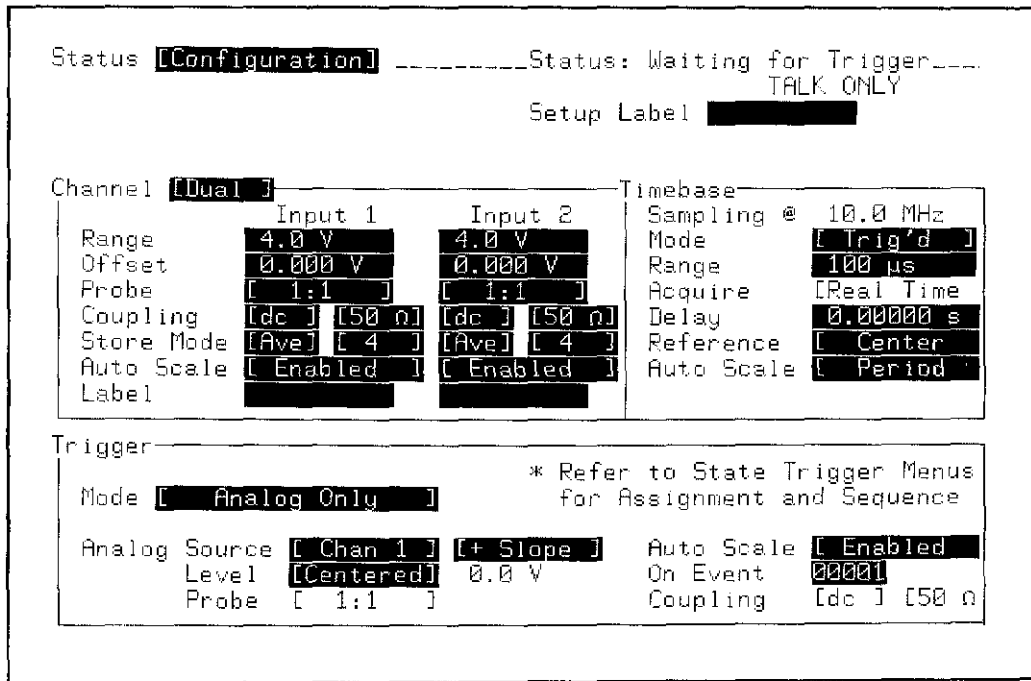

Figure 3-12. STATUS Configuration Menu
1. Configure STATUS Configuration menu as shown in figure 3-12.